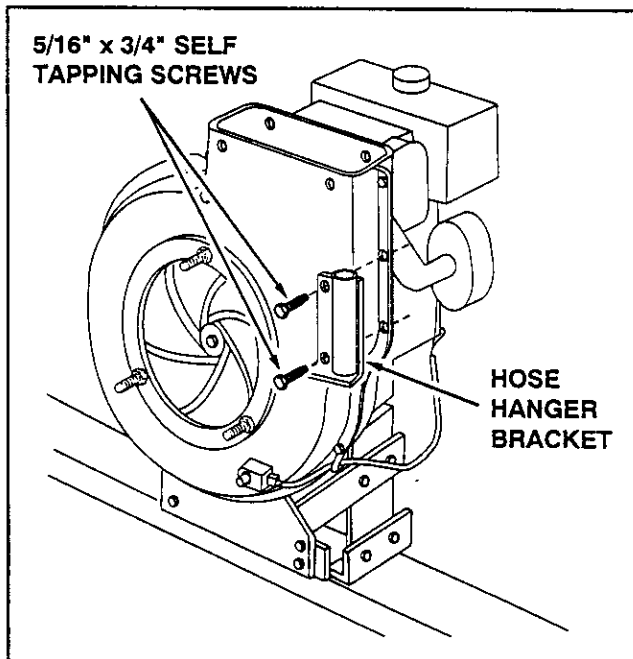

FIGURE 21
- To assemble the hose hanger bracket to the blower housing, you must first remove two self tapping screws from the holes in the blower housing as shown in figure 21. Using these same screws, attach the hose hanger bracket to the blower housing.